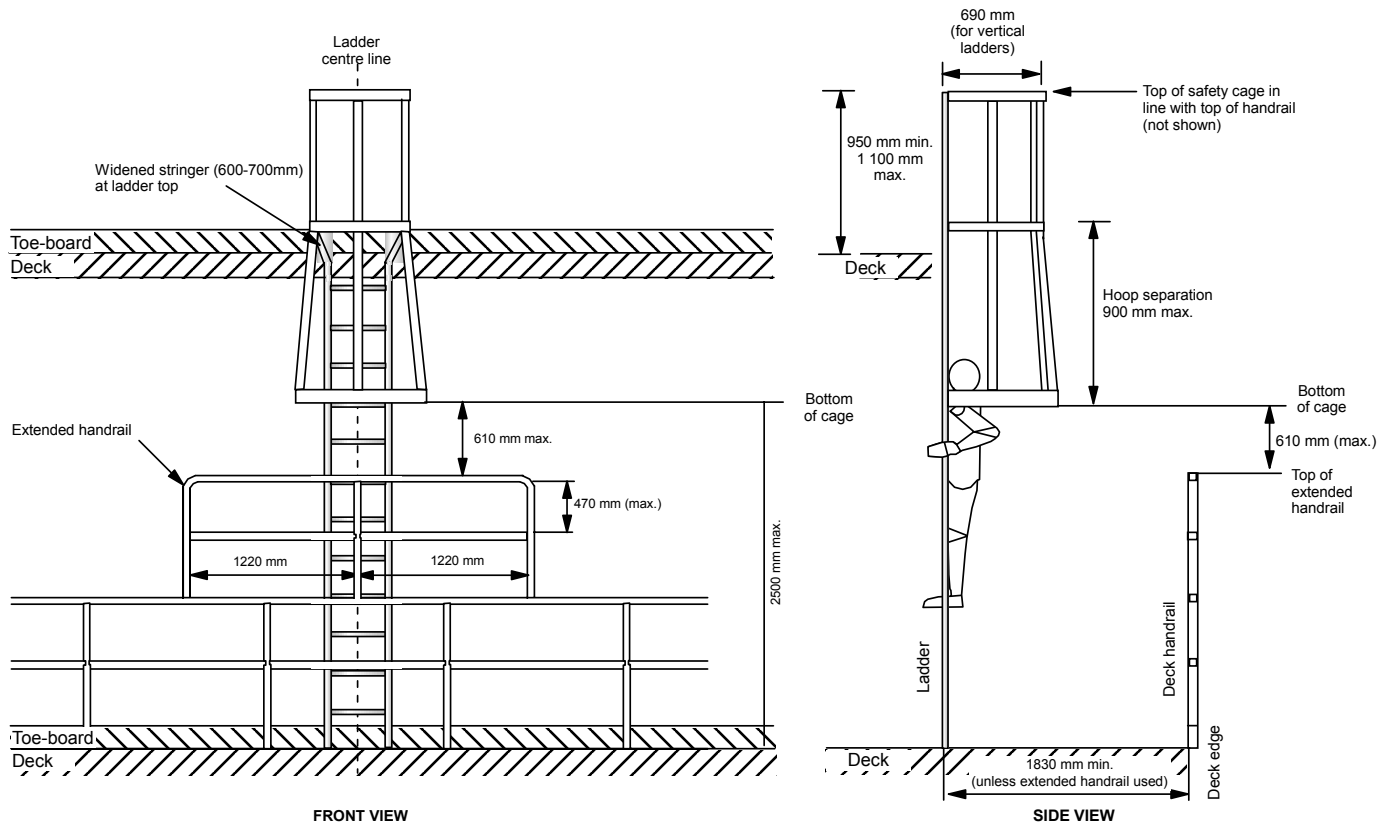

Figure 2 – Ladder and extended handrail to lower deck (with safety cage)
4. If the ladder *does* have a safety cage, the handrail should be increased in height so that the distance between the bottom of the hoops and the top of the extended handrail is no more than 610 mm (see Figure 2)
5. Vertical gaps in the extended handrail should be no more than 470 mm (see Figure 2)